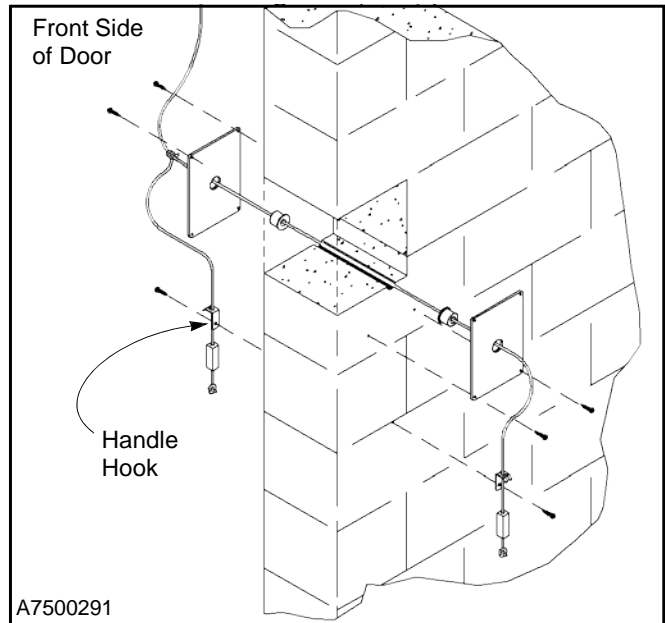

Figure 39
4. Using hardware appropriate for the wall, mount a handle hook to the wall. (See Figure 39.)